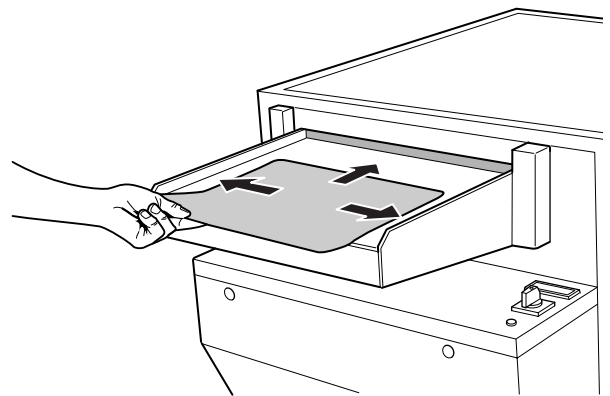

Fig. 7
- Sheet films are laid with the large side in front on the feed table while holding the end of the film with two fingers (in the middle). With a forward motion and with a light pressure, the film is pushed straight into the insertion slot. Release the film when it is grabbed by the transport system of the developer machine (fig. 7).